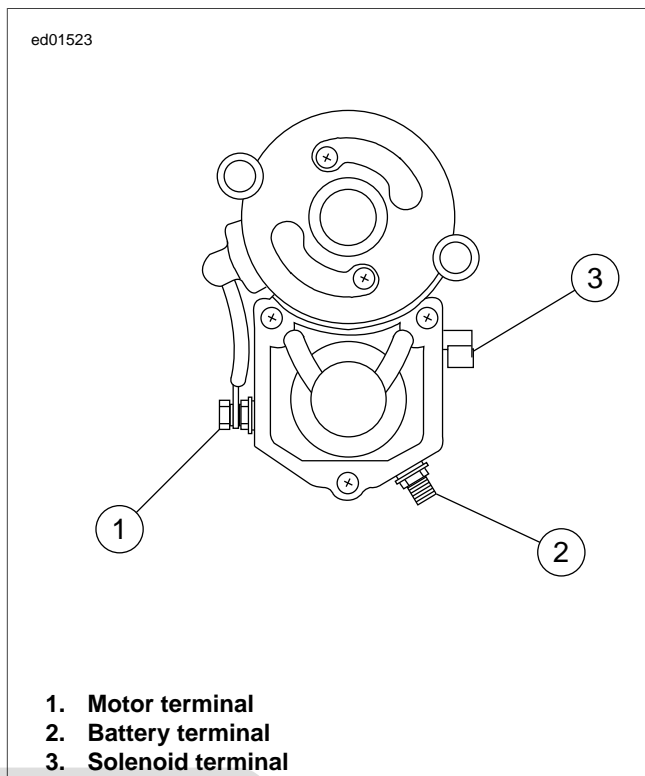

Figure 1-2. Starter Terminals
1. See Figure 1-2. Perform test for 1.5 DIAGNOSTICS/TROUBLESHOOTING, Voltage Drops.